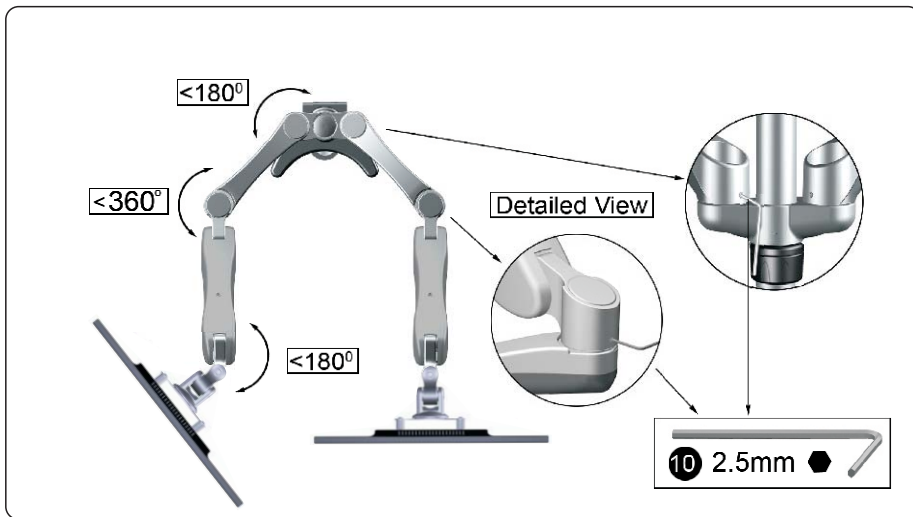
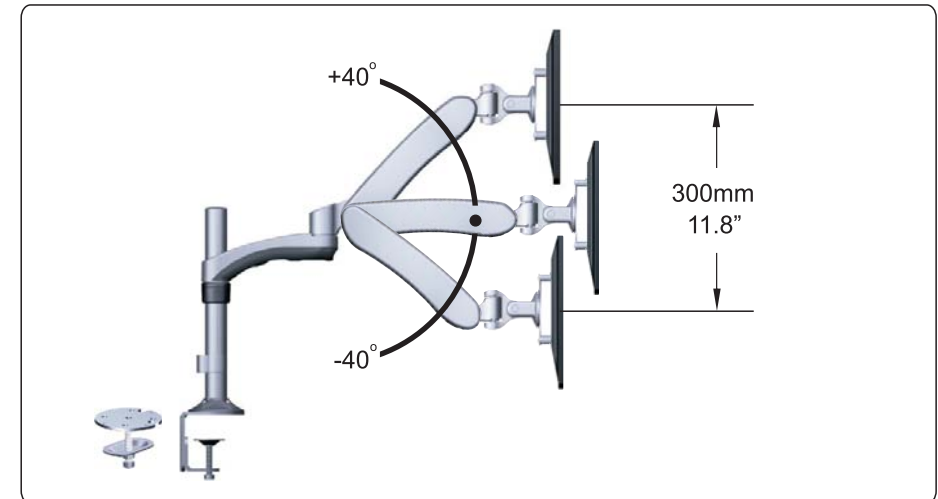

Figure 5-7
Figure 5-6
8. This product can be lift up and down as shown. (See Figure 5-6) If this product tends to automatically move to side, it may be required tension adjustment on the Articulating Arm to suit your display monitor arm swing to side position. This can be done by using Hex Allen Wrench 2.5mm (10) supplied. (See Figure 5-7)